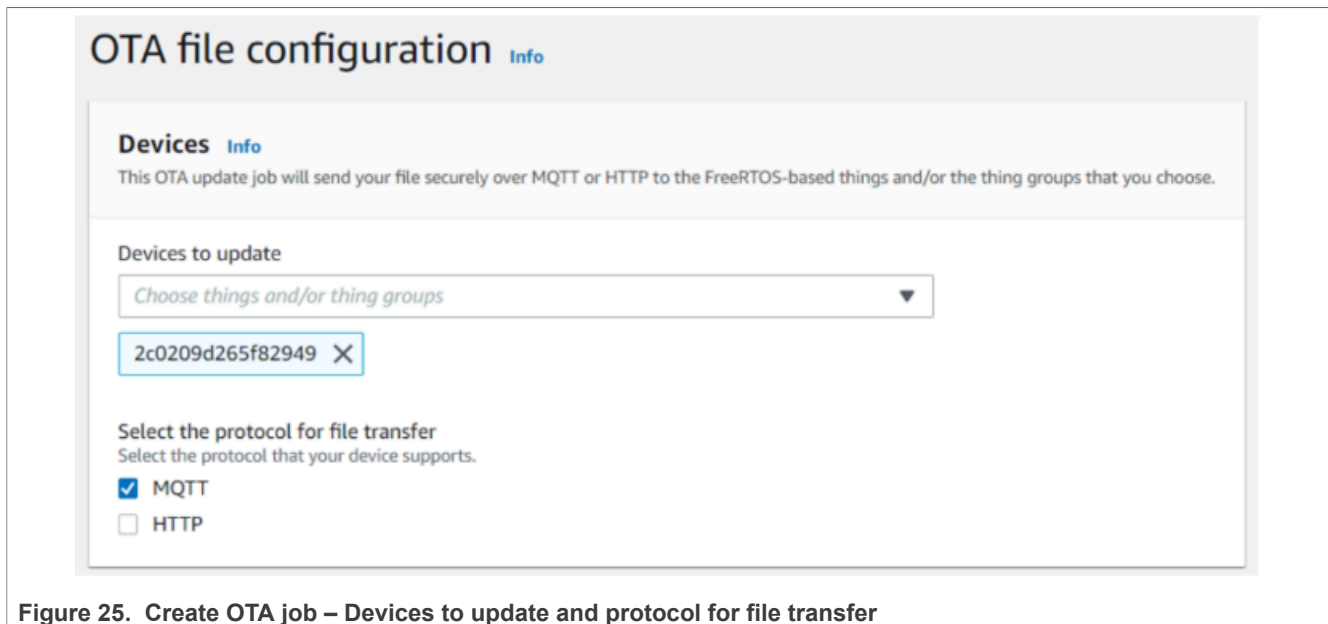

Figure 25. Create OTA job – Devices to update and protocol for file transfer
4. The OTA File Configuration window appears. Specify the serial numbers of the devices to be updated. Select the MQTT option as the protocol for file transfer as shown in Figure 25 :